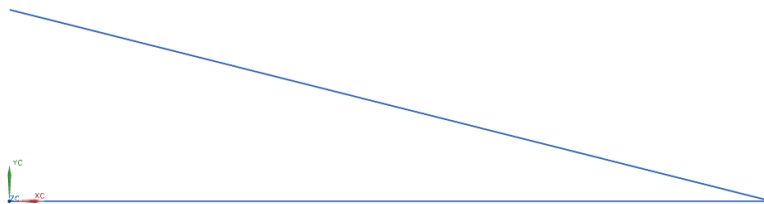

Figure 2. Idealization of the Solid Model
6. If the idealized part was created in the previous step, use the “Window” menu to switch to the CAD model for the idealized part (e.g., fem1\_i.prt). The idealized CAD model is a simplified CAD model of the actual part. Use “Wave geometry linker” to copy the solid or just the sketch from the CAD model from Step 3 into the idealized CAD model. If the entire solid was copied, then a new 3D line should be created to represent the centerlines of the truss members. In the end, it should look similar to the original sketch, as shown in Figure 2.